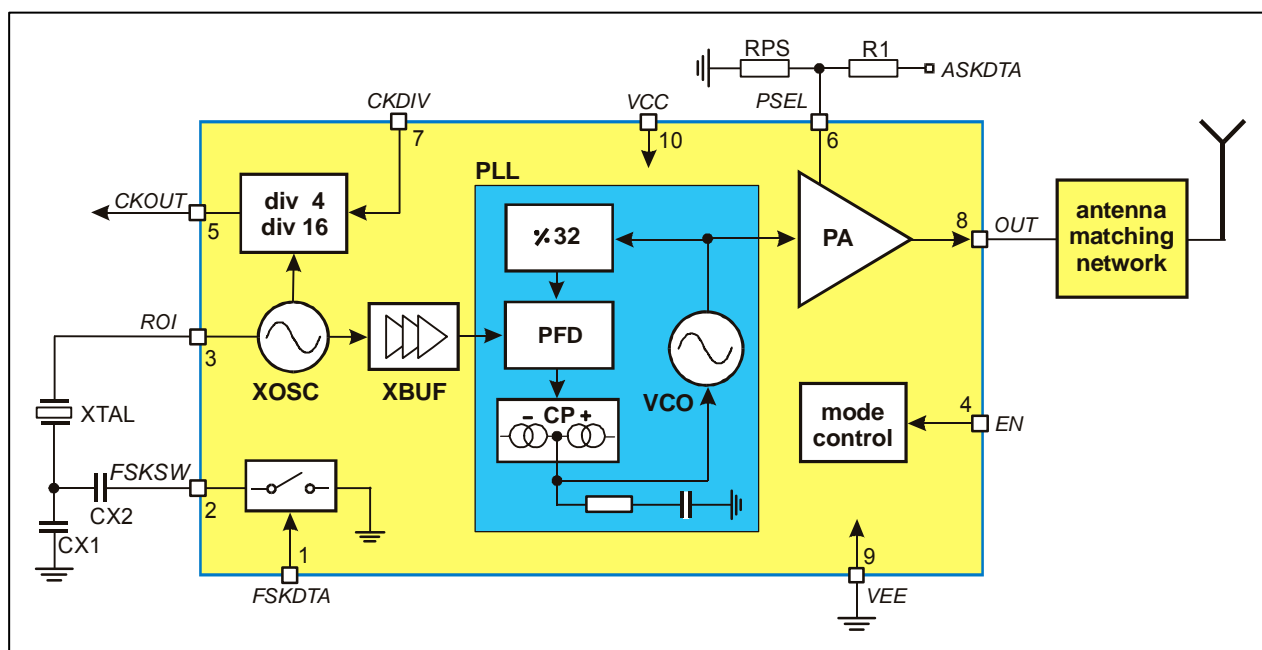

Fig. 1: Block diagram with external components
As depicted in Fig.1, the TH72006 transmitter consists of a fully integrated voltage-controlled oscillator (VCO), a divide-by-32 divider (div32), a phase-frequency detector (PFD) and a charge pump (CP). An internal loop filter determines the dynamic behavior of the PLL and suppresses reference spurious signals. A Colpitts crystal oscillator (XOSC) is used as the reference oscillator of a phase-locked loop (PLL) synthesizer. The VCO's output signal feeds the power amplifier (PA). The RF signal power P_{out} can be adjusted in four steps from $P_{out} = -12$ dBm to $+11$ dBm, either by changing the value of resistor RPS or by varying the voltage V_{PS} at pin PSEL. The open-collector output (OUT) can be used either to directly drive a loop antenna or to be matched to a 50 Ohm load. Bandgap biasing ensures stable operation of the IC at a power supply range of 1.95 V to 5.5 V.